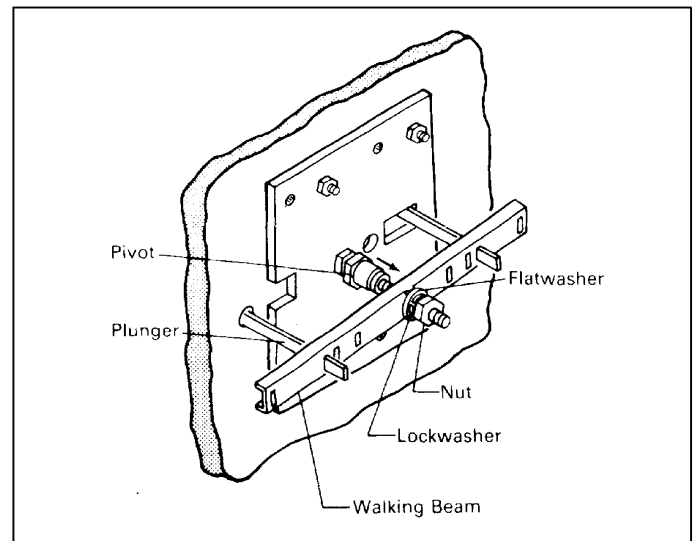

Fig. 2-7. Walking Beam Final Assembly
- 2-8. With one circuit breaker in the ON position and the other in the OFF position, place flat washer and lockwasher on pivot stud. Screw nut onto pivot stud until walking beam is held by nut (Fig 2-7).
- 2-9. Screw walking beam pivot along stud until shoulder on pivot enters recess in walking beam (Fig. 2-7). Tighten pivot against washers and nut.